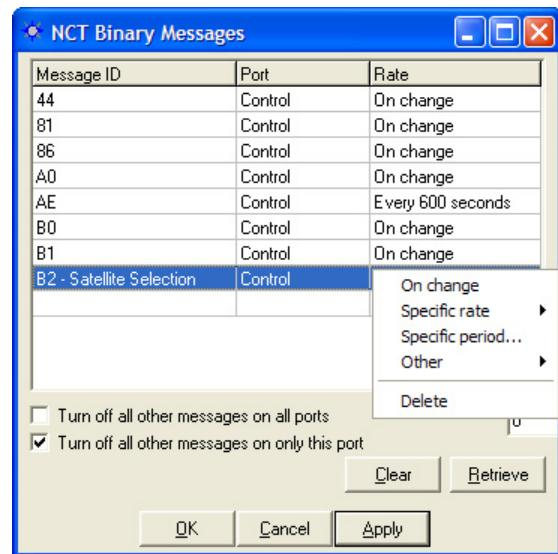

Figure 90: NCT Binary Messages Rate Menu
- ✓ Right-click on the *Rate* cell to open the menu to schedule the frequency of output for a message (see Figure 90).